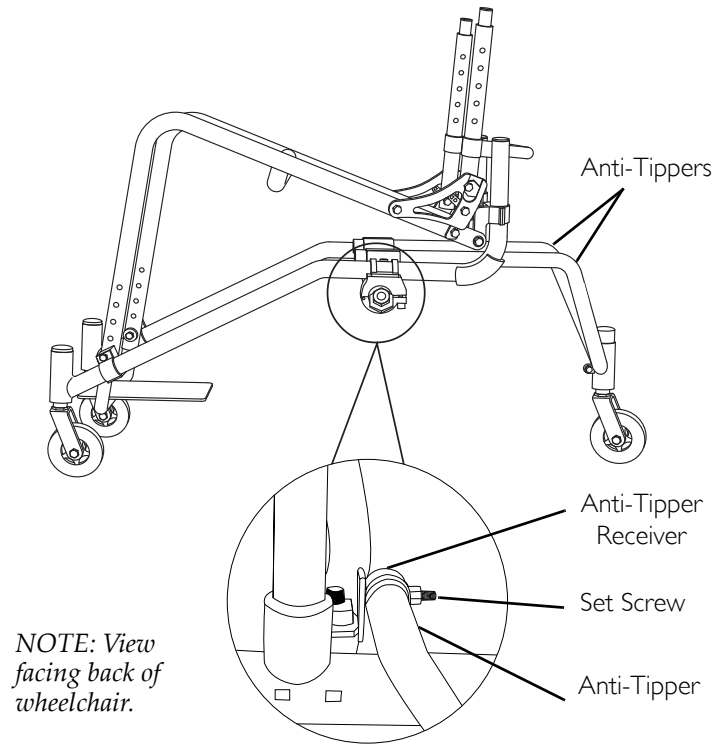

FIGURE 7.7 Adjusting Height - All Wheelchairs with Swivel Anti-tip Except Paul Schulte Signature BB and T-5 Tennis Elite Models
NOTE: For this procedure, refer to FIGURE 7.7 on page 58.
1. Loosen set screws on anti-tip receivers (FIGURE 7.7).
NOTE: For this procedure, refer to FIGURE 7.7.
1. To adjust the height of the swivel anti-tip, remove dust cover and loosen set screw on swivel anti-tip castor assembly (FIGURE 7.7).